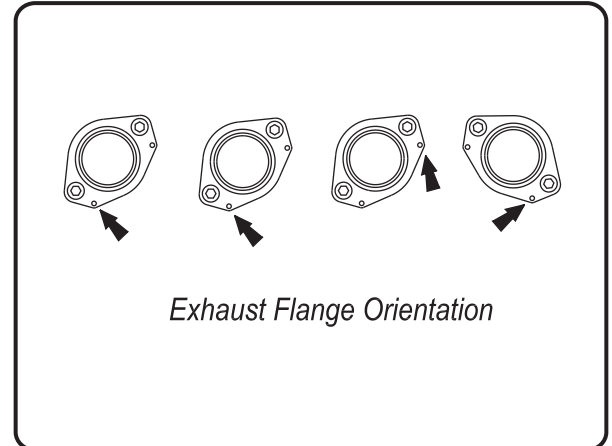

Fig. 5
- 5 Install Yoshimura manifolds and flanges into exhaust ports using stock header nuts (see Fig. 5 for flange orientation).
- 8 Connect header to flanges using the supplied springs (see Fig. 5 for spring locations).